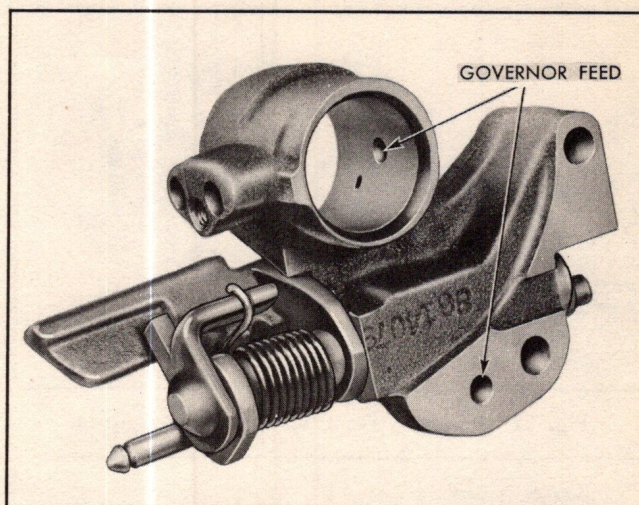

Fig. 36 Location of Governor Feed Passage
1. Check governor feed passage by inserting tag wire (Fig. 36).